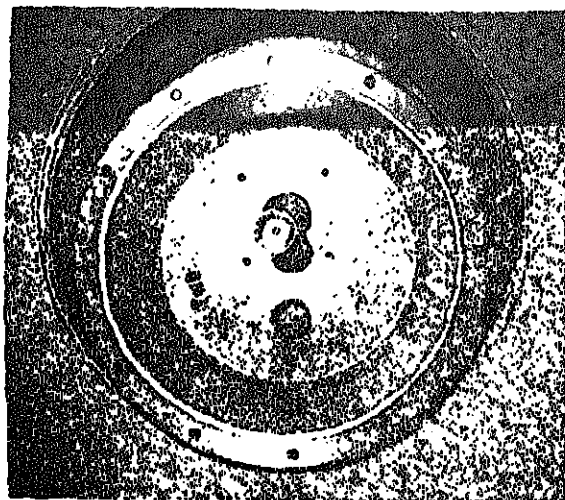

FIGURE 7-92
c. Align the frame to motor housing capscrew holes and insert the capscrews. Tighten the capscrews in an alternate pattern back and forth across the motor housing. Turn these capscrews only 1/4 to 1/2 turn at a time until the motor housing is piloted into and bottomed against the frame (see figure 7-92).